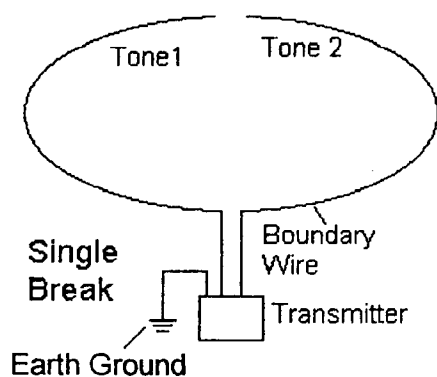
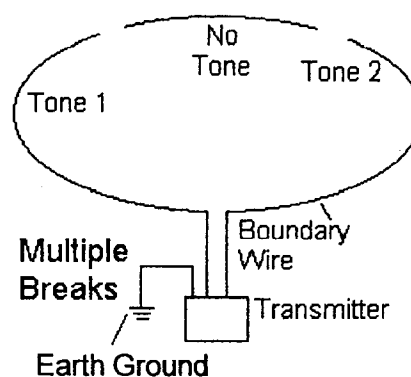

Figure 1
Figure 2
Step 8: Continue to follow the wire until the volume of the tone begins to decrease. You may now want to bring the receiver close to the ground and then continue following the wire until the tone changes. The point where the tone changes is where the break is located (see Figure 1). If there happens to be multiple breaks in the wire, the volume of the tone will decrease and then no tone will be heard (see Figure 2).